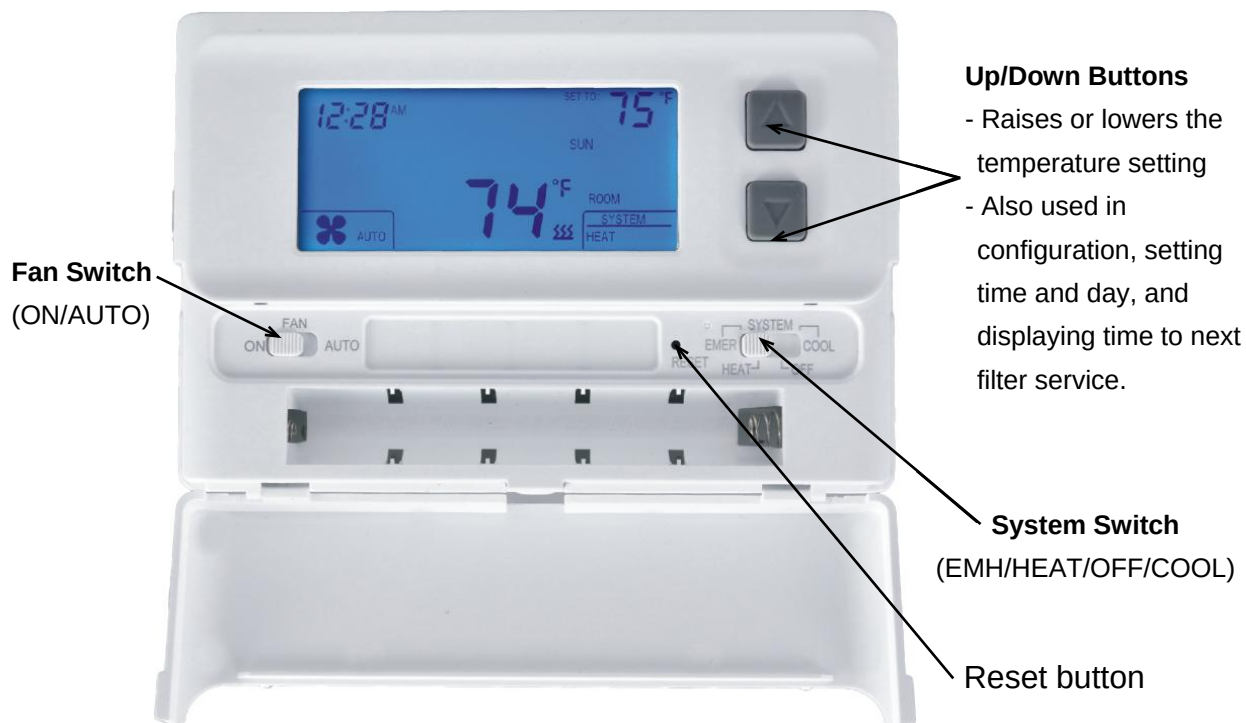

Figure 2
1. Place the **SYSTEM** switch in the **OFF** position. (See Figure 2)
2. Place the **FAN** switch in the **AUTO** position. (See Figure 2)